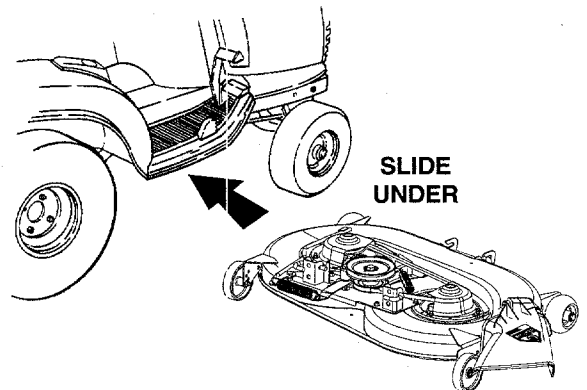

Figure 46
2. Refer to Figure 46 and position the deck on the right side of the tractor with the front of the deck facing toward the front of the tractor. Raise the tractor implement lift handle to its highest setting and slide the deck under the tractor.